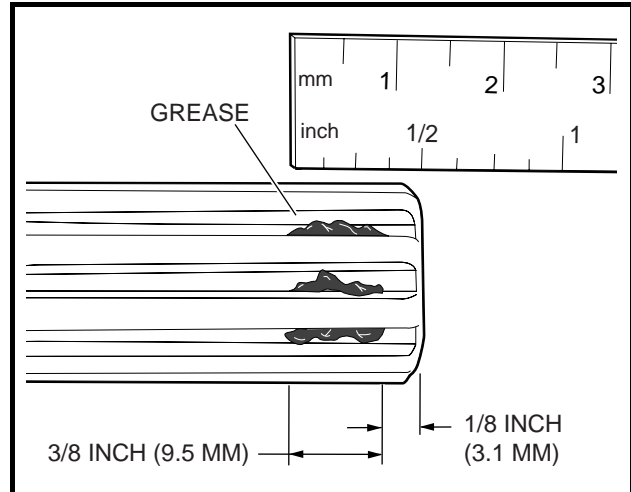

Figure 16-15 Application of grease to Input Shaft Grooves
- 2.3. Apply motor coupling grease evenly to the rotating input shaft starting at approximately 1/8 inch (3.1 mm) from the end of the shaft and working back toward the transaxle (away from the end of the shaft) (**Figure 16-15, Page 16-13**).